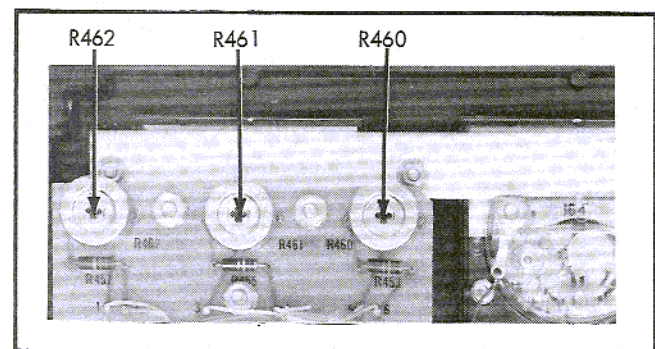

Figure 4-2. BATTERY CHECK CALIBRATION ADJUSTMENTS
- f. Adjust R462 (see Figure 4-2) for a PERCENT INPUT meter indication at the lower limit of the BAT OK band.
- j. Adjust R461 (see Figure 4-2) for a PERCENT INPUT meter indication at the lower limit of the BAT OK band.
- n. Adjust R460 (see Figure 4-2) for a PERCENT INPUT meter indication at the lower limit of the BAT OK band.